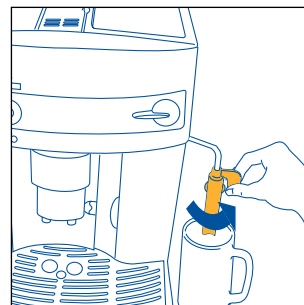
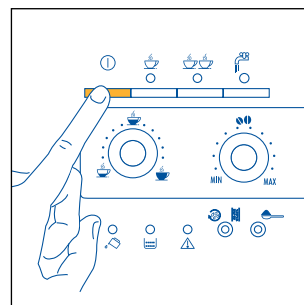
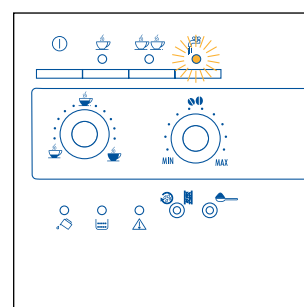

Fig.3
Fig.4
Fig.22
2. Move the milk frother towards the outside and place a cup underneath (Fig.3). Then turn the machine on by pressing the ① button (Fig.4).
- turn the milk frother towards the outside of the machine (Fig. 3).
- Position a container underneath the milk frother (Fig. 3).
- Place an empty recipient under the cappuccino maker (fig. 3). Turn the steam knob a half turn anticlockwise as far as it will go (the light flashes fig. 22). Run off the steam mixed with water for a few seconds until only steam is given off.